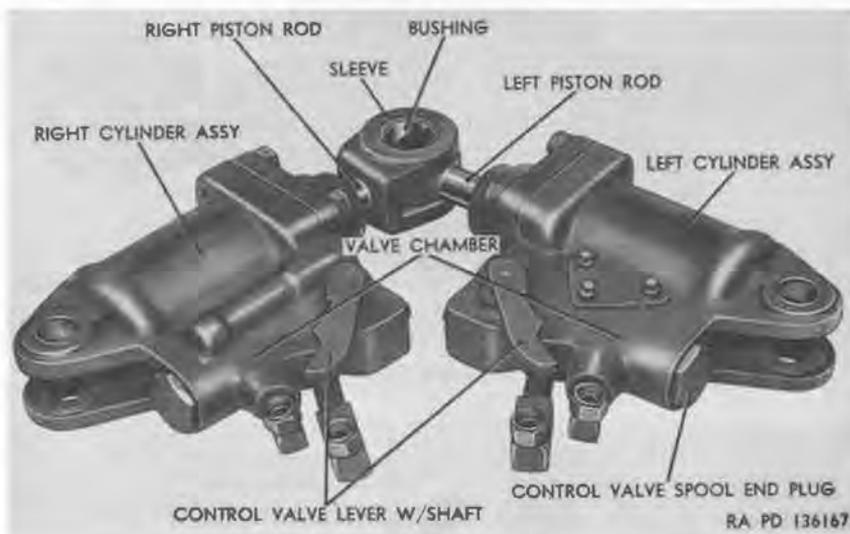

Figure 15. Swing motor—bottom view.
*a. General.* The cylinder assemblies of the swing motor (fig. 15) are removed from the base plate as one assembly. Separation procedure of the cylinder assemblies is described in (b) below. Disassembly procedures for both cylinder assemblies are identical; however, only the right cylinder disassembly is illustrated.
*b. Separation of Cylinder Assemblies.* Position piston rod ends of cylinder assemblies in press. Support cylinder assemblies with rod ends in line with ram on press. Use suitable adapter and press sleeve and bushing (fig. 15) from yoke end of piston rod.
(fig. 15)